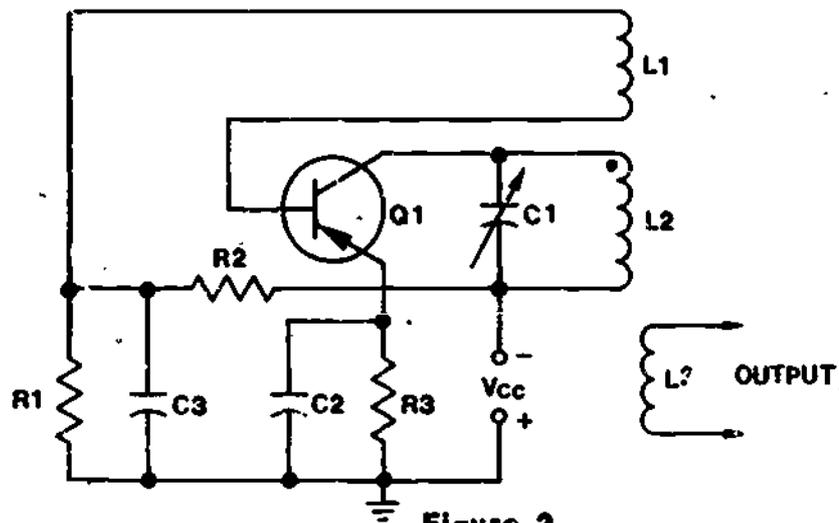

Figure 2
3. In figure 2, which inductor determines the frequency of oscillation?
4. In figure 2, the purpose of transistor Q1 is to